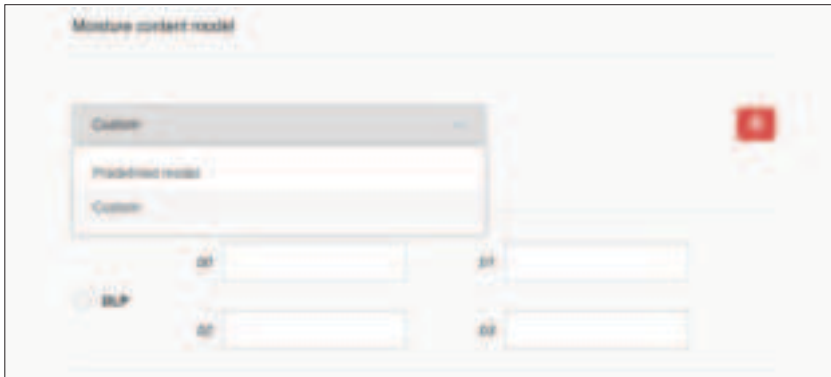

Figure 16 Custom model type and coefficients
- b. Click the radio button beside the model type identified on the Custom Isotherm Model Coefficients sheet (Figure 16).